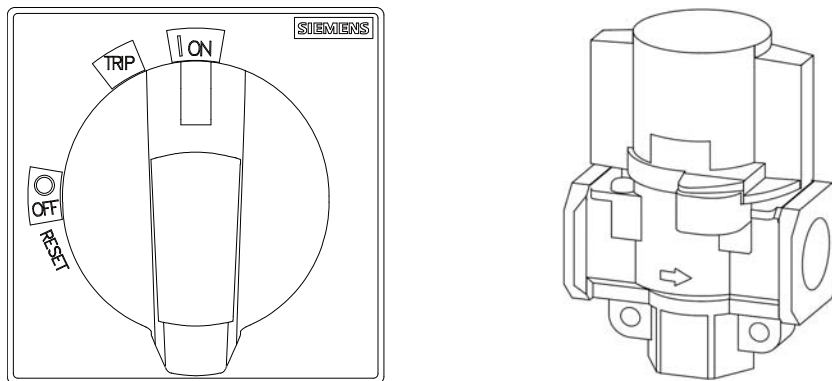

Figure 7-43 Main power switch/manual ON-OFF valve
Step 14: Turn on the main power switch, as shown in the left view of Figure 7-43;
Step 15: Turn on the manual ON-OFF valve, as shown in the right view of Figure 7-43;